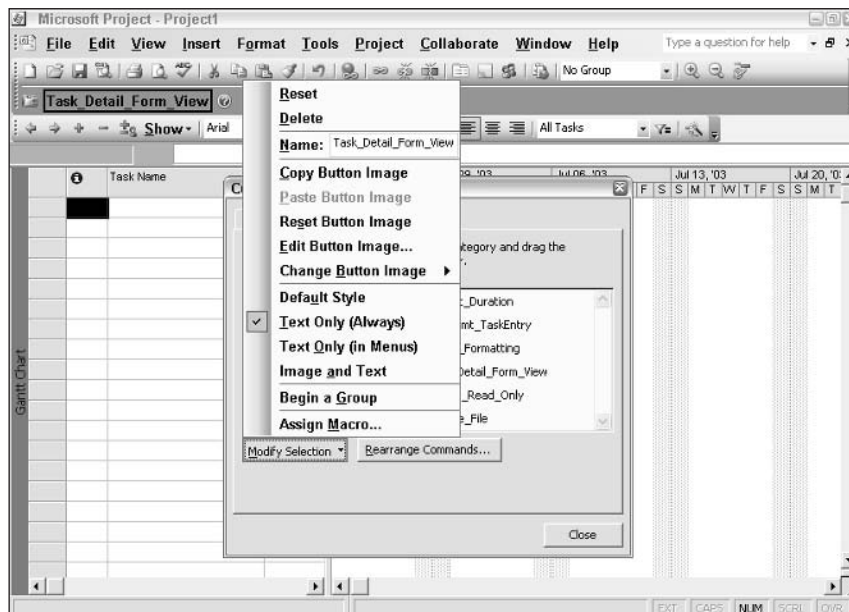

Figure 24-9: The menu that appears when you click the Modify Selection button to change a macro button's name.
7. To change the name of the toolbar button, click **Modify Selection** in the Customize dialog box to open the pop-up menu that is shown in Figure 24-9.